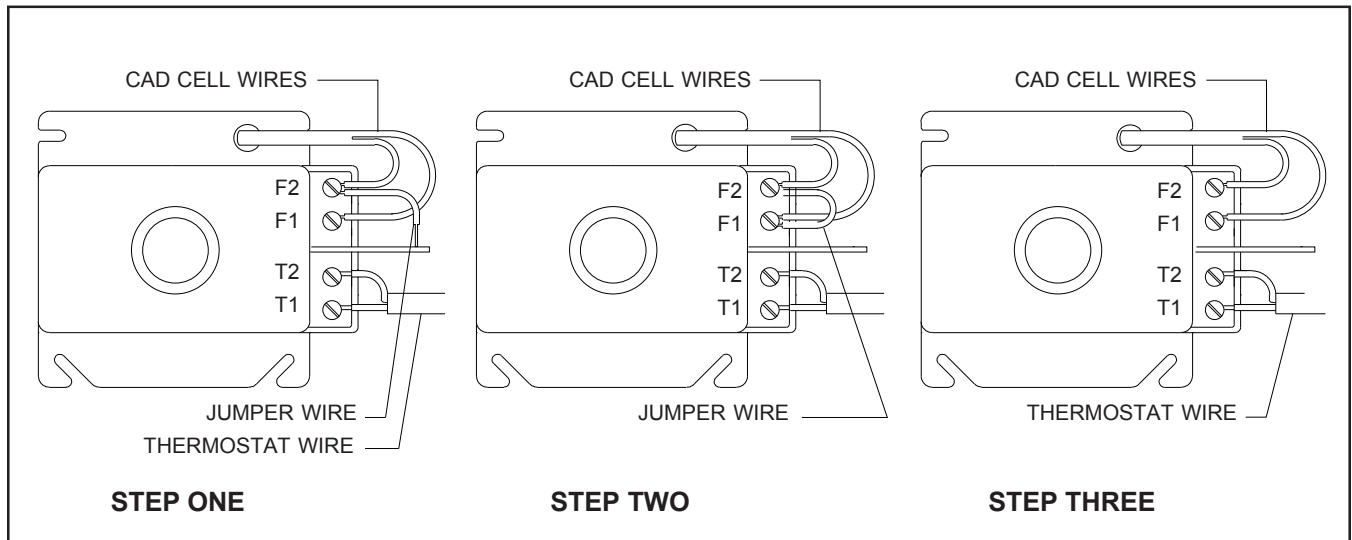

FIGURE 5D - Jumping the Oil Primary Control
1. Refer to Figure 5D, Step 1.
4. Refer to Figure 5D, Step 2.
ATTENTION: *Never* touch a jumper wire from an "F" terminal to a "T" terminal on the oil primary control. This will severely damage your primary control. Make sure that the plastic barrier strip is in place between the "F" and "T" terminals as shown in Figure 5D.
4. Remove the jumper wire from the "F" terminals, and make sure the cad cell wires are now connected to the "F" terminals as illustrated in Figure 5D, Step 3. Save the jumper wire for future pump priming.